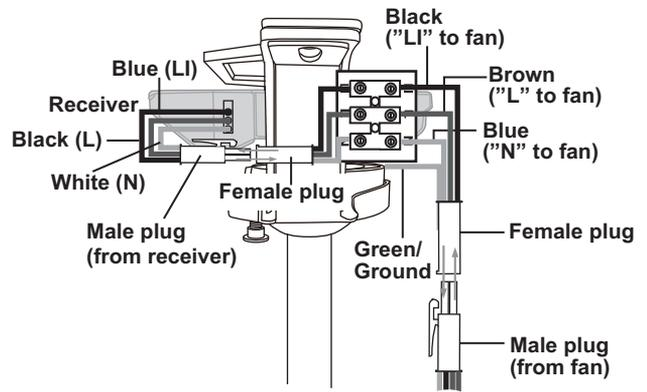

Figure 10
5. Be sure to connect the male plug (from receiver) and female plug (from terminal block) together. (Fig. 10 &11)
6. Be sure to snap together the male and female plugs. (Fig. 10 &11)